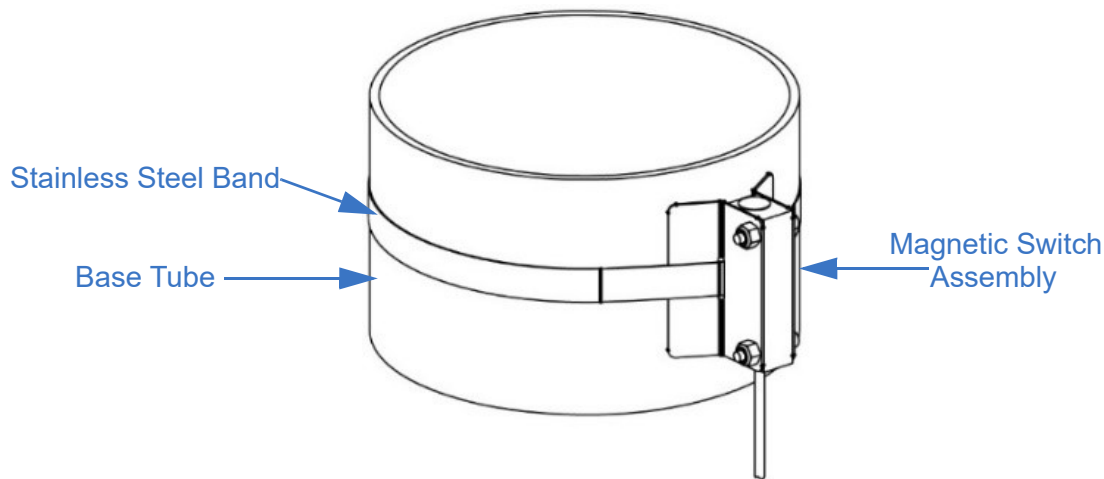

Figure 5-28 Magnetic Switch Assembly Attached to Base Tube
5. Attach the Magnetic Switch Assembly loosely around the base tube approximately 6 to 20 inches (15 to 51 cm) above the base plate (Figure 5-28). The Magnetic Switch Assembly can be located anywhere around the perimeter of the base tube.